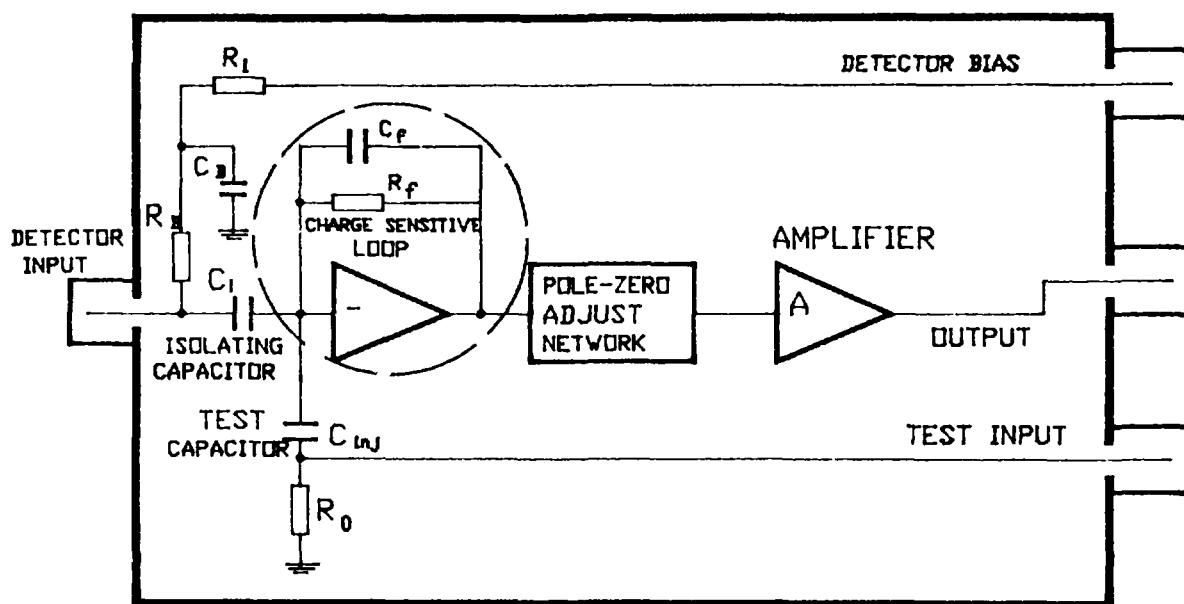

Fig. 6.18: Charge-sensitive preamplifier
A typical block diagram of such a preamplifier (PA) is given in Fig. 6.18, where the shielding box, the connectors, the detector biasing and the test networks are also indicated.